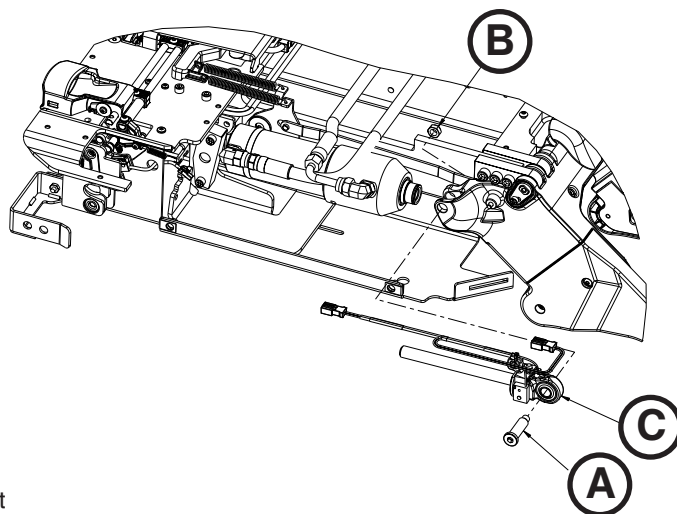
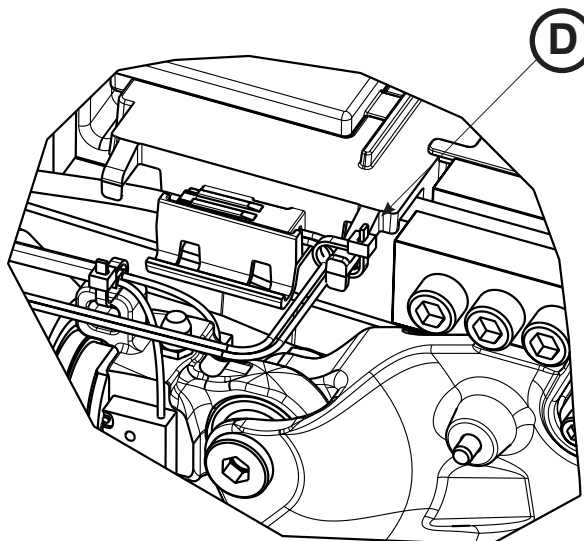

Figure 83
Figure 84
4. Using a 1/4" hex wrench and a 1/2" combination wrench, remove the end cap cylinder pin (A) and nut (B) (Figure 83).
5. Using diagonal pliers, cut the cable ties (D) (Figure 84) that secure the hydraulic cylinder rod end assembly (C) cable to the plastic cover (Figure 83).
6. While lifting up on the cylinder, remove the hydraulic cylinder rod end assembly (C) (Figure 83). Save the hydraulic cylinder rod end assembly for reinstallation.